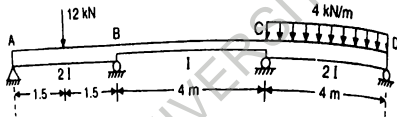

Figure 3
13. A three span beam ABCD has different moment of inertia and is loaded as shown in Figure 3. Find the reaction and support moment and draw the shear force and bending moment diagram :